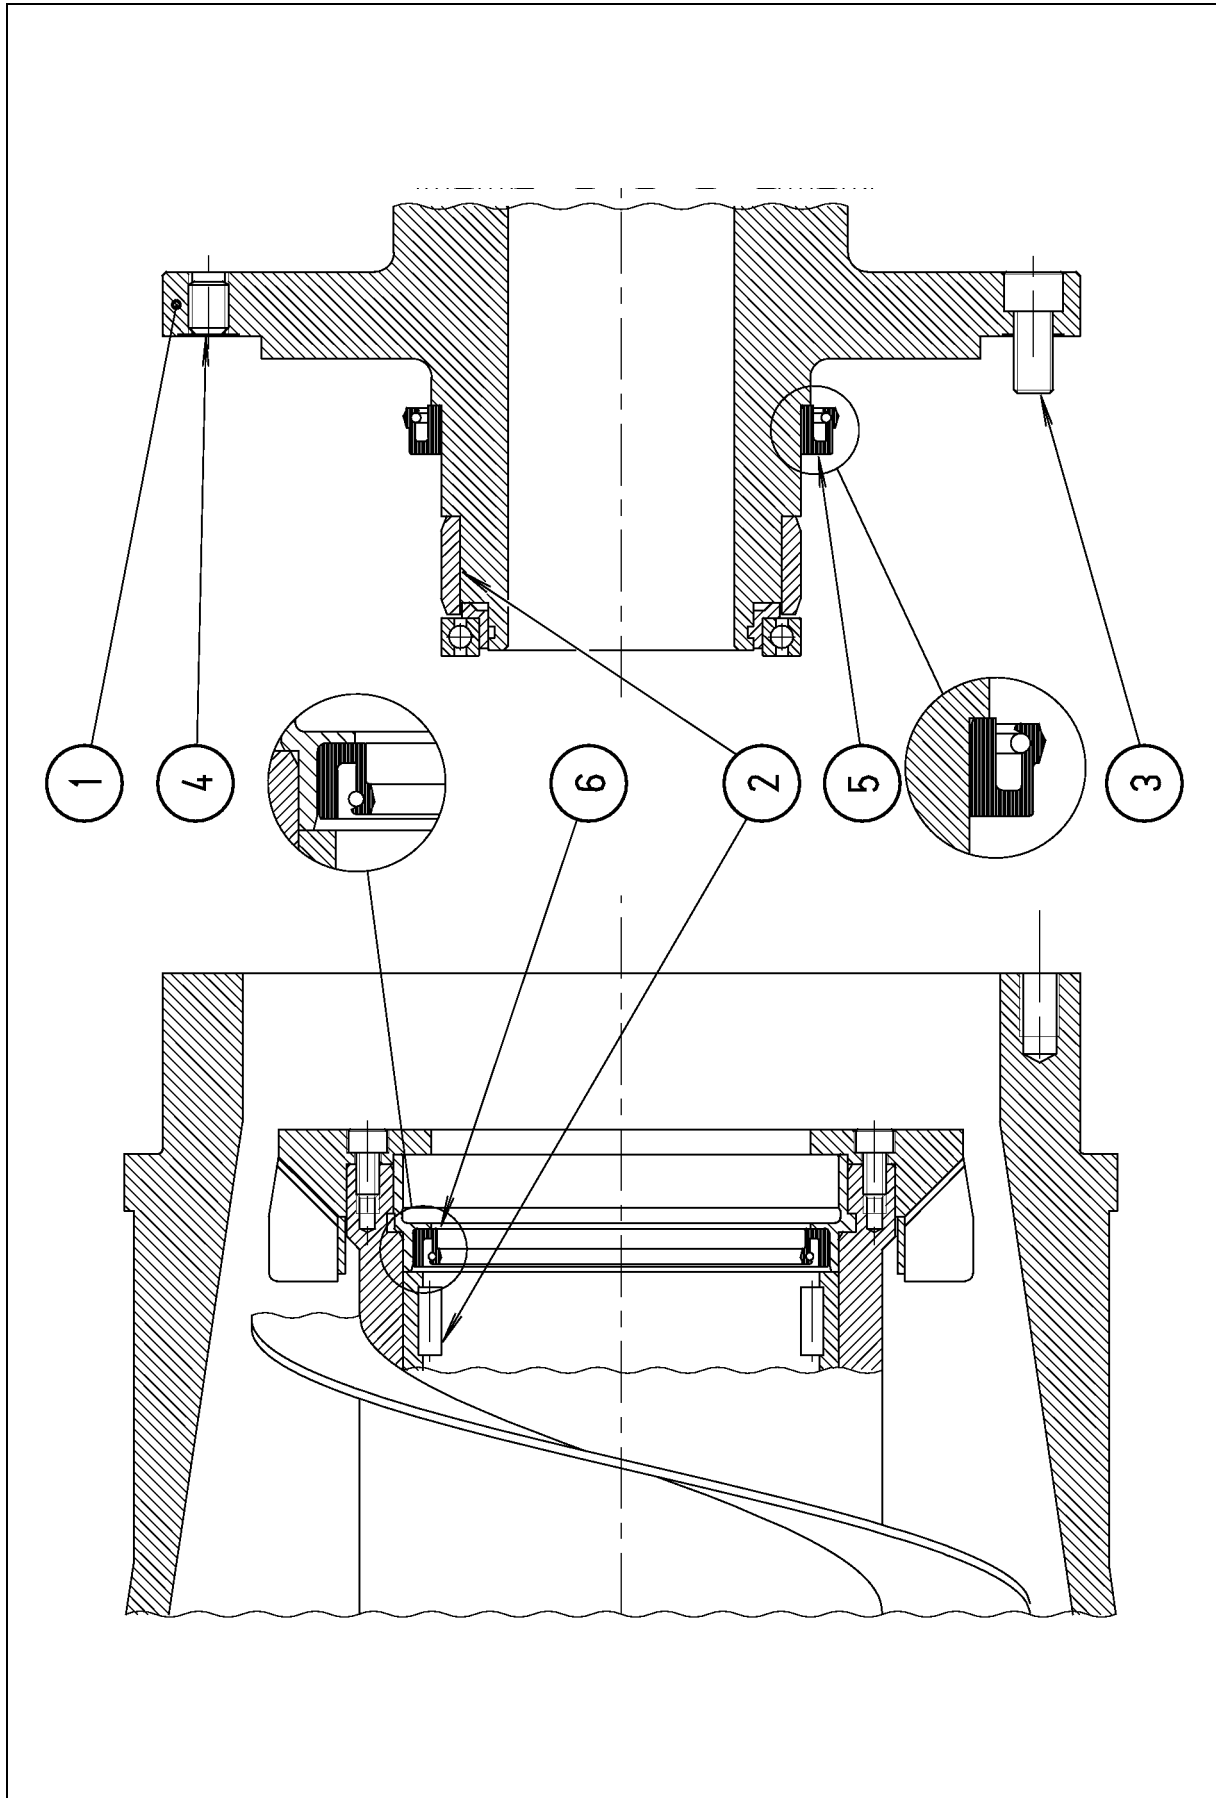

Figure 4.1.3
4.1.5 Remove Small End Hub (Fig. 4.1.3)
4.1.6 Install Small End Hub (Fig. 4.1.3)